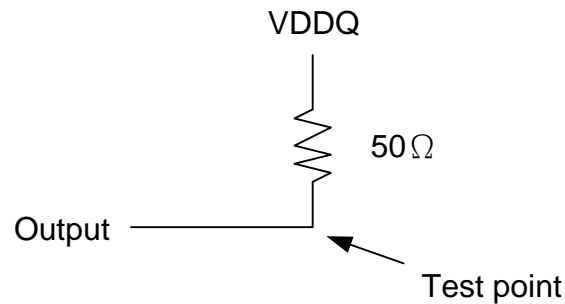

Figure 4: Pulldown slew rate test load
b. Pulldown slew rate is measured under the test conditions shown in Figure 4.